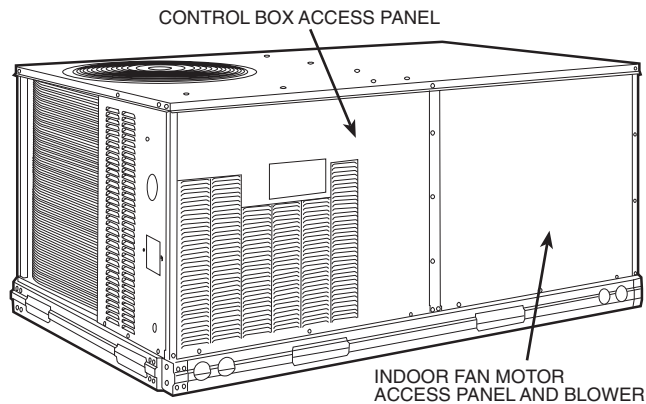

**Fig. 29 — Typical Access Panel Locations
10. Remove the indoor fan motor access panel. See Fig. 29.